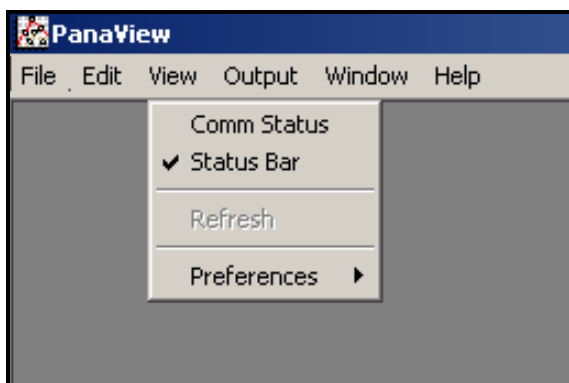
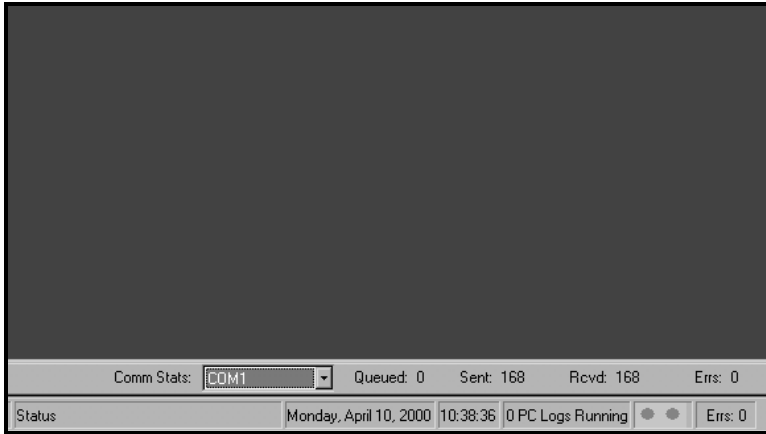

Figure 15: The View Menu
Figure 16: The Comm Status Bar
Prior to setting up communications with a meter, the “*View*” menu (see Figure 15) provides three options for customizing the PanaView interface:
This option permits the user to toggle a communications status bar on and off. The default state is “Off” as indicated by the absence of a check mark in Figure 15 on page 22. When toggled “On”, the Comm Status bar appears just above the main Status bar (see Figure 16) and displays the following serial communications categories, from left to right:
**Note:** To make the image in Figure 16 more readable on this page, the window was compressed horizontally from its actual dimensions.
To access the “*Preferences*” option (see Figure 15 on page 22), click on it in the “*View*” menu. Click on any of the tabs and proceed to the appropriate section for instructions.